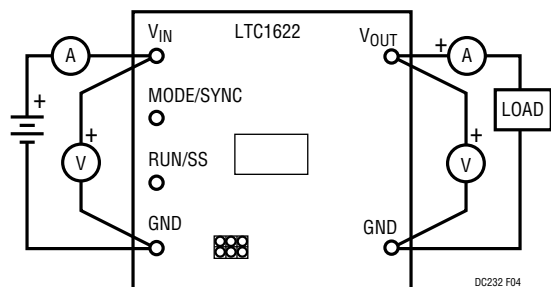

Figure 4. Correct Measurement Setup
6. Connect the load between the  $V_{OUT}$  and GND terminals. Refer to Figure 4 for proper measurement equipment setup.
When measuring voltage regulation, all measurements must be taken at the point of regulation. This point is where the LTC1622 control loop looks for the information to keep the output voltage constant. This information occurs between Pin 3 and Pin 6 of the LTC1622. For output voltages other than 0.8V, the voltage at Pin 3 can be adjusted by the resistor divider network. These points correspond to the output terminals of the demonstration board. Test leads should be attached to these terminals and the load should be attached as close to these terminals as possible. This applies to line regulation (input-to-output voltage regulation) as well as load regulation tests. In performing line regulation tests, always look at the input voltage across the input terminals. Refer to Figure 4 for proper monitoring equipment configuration.